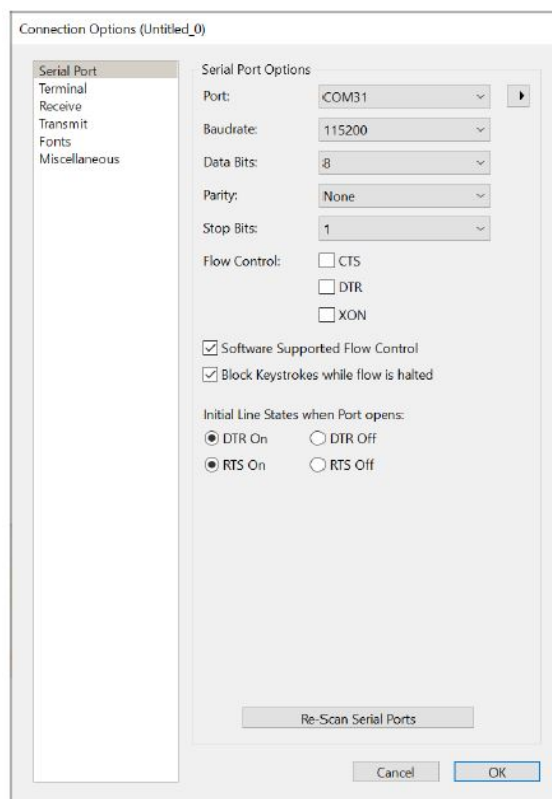

Fig. 7. Setting UART's parameters in CoolTerm.
3. Tap "SCAN" button to search for any BlueIO832-Mini existing around. If the app found a BlueIO832-Mini, it displays "BlueIO832-Mini" onto the Select Device section (Fig. 7).